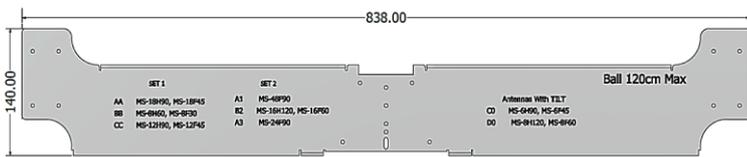

Figure 1: Main Base Plate
- **Main Base Plate (Ball 120cm Max):** Anchors SLP to antenna frame. (Figure 1.)